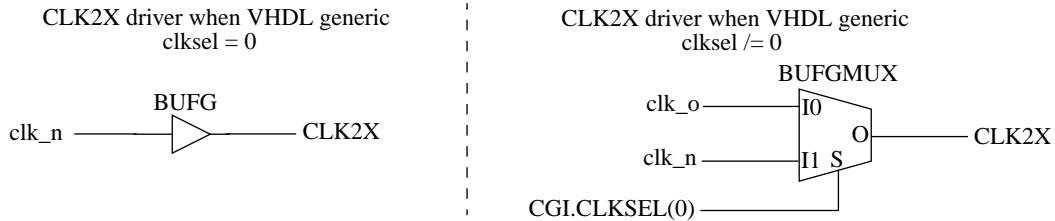
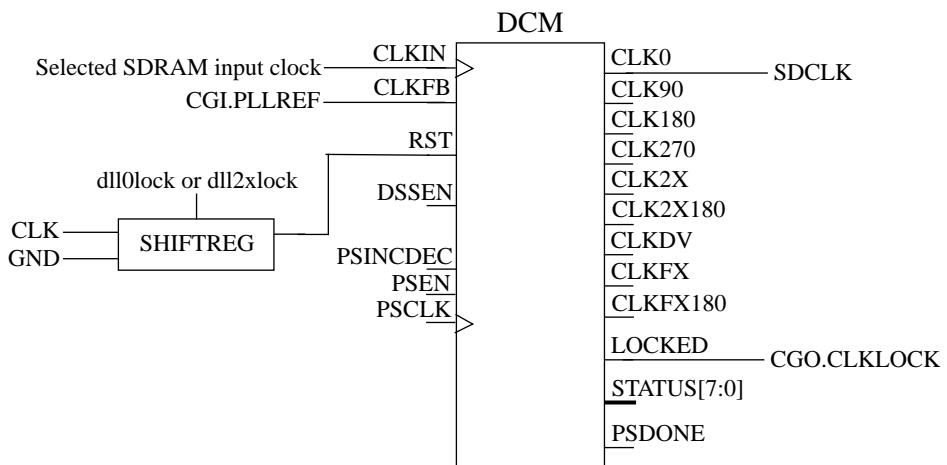

Figure 53. Spartan 3/e selection of CLK2X clock when VHDL generic *clk2xen* is non-zero
Figure 56. Spartan 3/e generation of SDRAM clock
shift register connected to the CLK2X DCM's RST input are set to '1'. When the dll0lock signal is asserted it will take four main clock cycles until the RST input is deasserted. Depending on the value of the *clksel* VHDL generic the core's CLK2X output is either driven by a BUFG or a BUFGMUX. Figure 53 shows the two alternatives and how the CGI.CLKSEL(0) input is used to selected between the CLK0 and CLK2X output of the CLK2X DCM.
If the SDRAM clock is enabled, via the *sramen* VHDL generic, and the clock generator is configured to use clock feedback the DCM shown in figure 56 is instantiated. This DCM has the same attributes as the CLK2X DCM. The input to the SDRAM DCM input clock is determined via the *clk2xen* VHDL generic. If the VHDL generic is set to 0 the input is the main CLK, if the generic is set to 1 the input is the *clk_p* out of the CLK2X DCM shown in figure 53. If the *clk2xen* VHDL generic is set to 2 the clock input to the SDRAM DCM depends on the *clksel* VHDL generic. The input in this last case is the CLK2X output shown in figure 55.
If the SDRAM clock is disabled (*sramen* VHDL generic set to 0) or the core has been configured not to use clock feedback (*noclockfb* VHDL generic set to 1) the driver of the core's SDCLK output is determined by the value of the *clk2xen* VHDL generic. If the *clk2xen* VHDL generic is set to 2, the SDRAM clock output is the same as the CLK2X output shown in figure 53, in other words it also depends on the *clksel* VHDL generic. If the *clk2xen* VHDL generic has any other value the SDCLK output is the same as the core's CLK output.